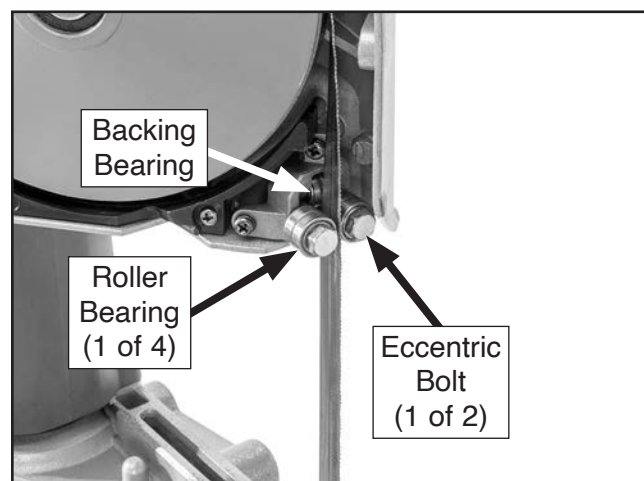

Figure 40. Blade guide assembly components (upper blade guide shown).
5. On each blade guide assembly, turn eccentric bolts to adjust distance between roller bearings (see **Figure 40**). Bearings should lightly contact blade or have a maximum clearance of 0.002".
Backing bearing (see **Figure 40**) on each blade guide assembly is not adjustable and should make light contact with blade.